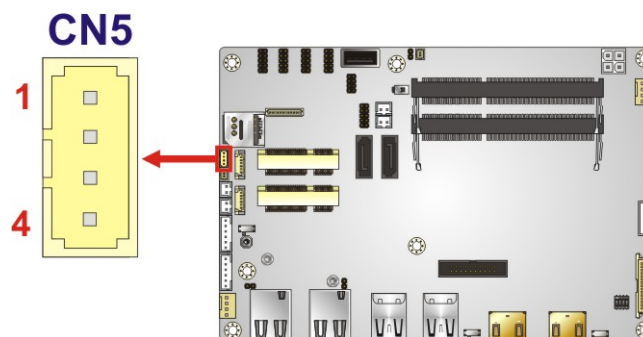

Figure 3-23: SMBus Connector Location
- CN Location:** See **Figure 3-23**